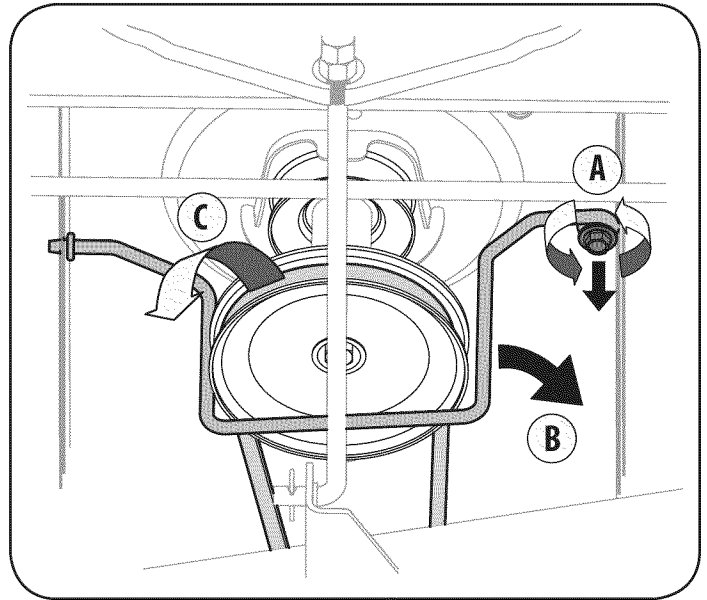

Figure 22
3. Remove the self-tapping screw (A) that secures the belt-keeper rod from around the tractor's PTO pulley, then remove the belt keeper rod (B). See Figure 22.
4. Remove the belt (C) from around the tractor's PTO pulley. See Figure 22.